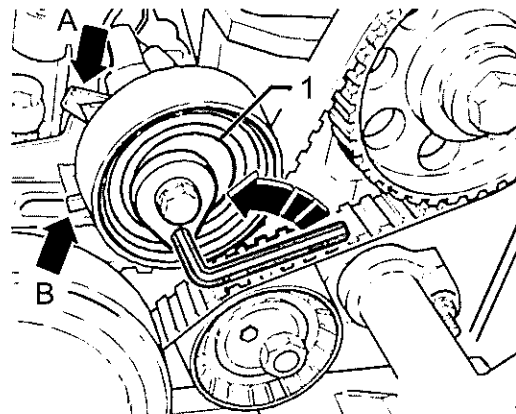

Fig 41 Tensioning roller
178 Fit the tensioning roller (see Fig 41 (1)) so that the tab of the tensioning roller is seated in the recess in the console (see Fig 41 (B)).
180 To tension the FIP belt, turn the tensioning roller anti-clockwise until the two pointers are aligned (see Fig 41 (A)).